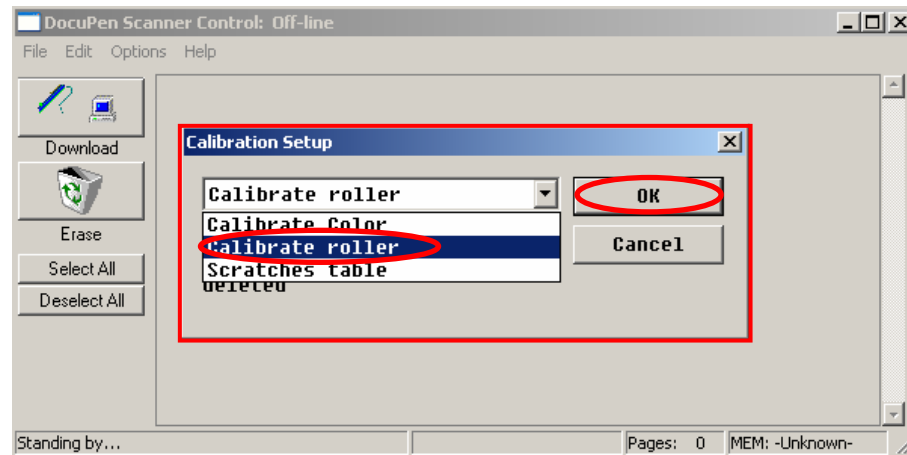

Fig 3
4. In the **Calibration Setup** dialog window – Select **Calibrate Roller** and confirm by clicking the **OK** button (Fig. 3).